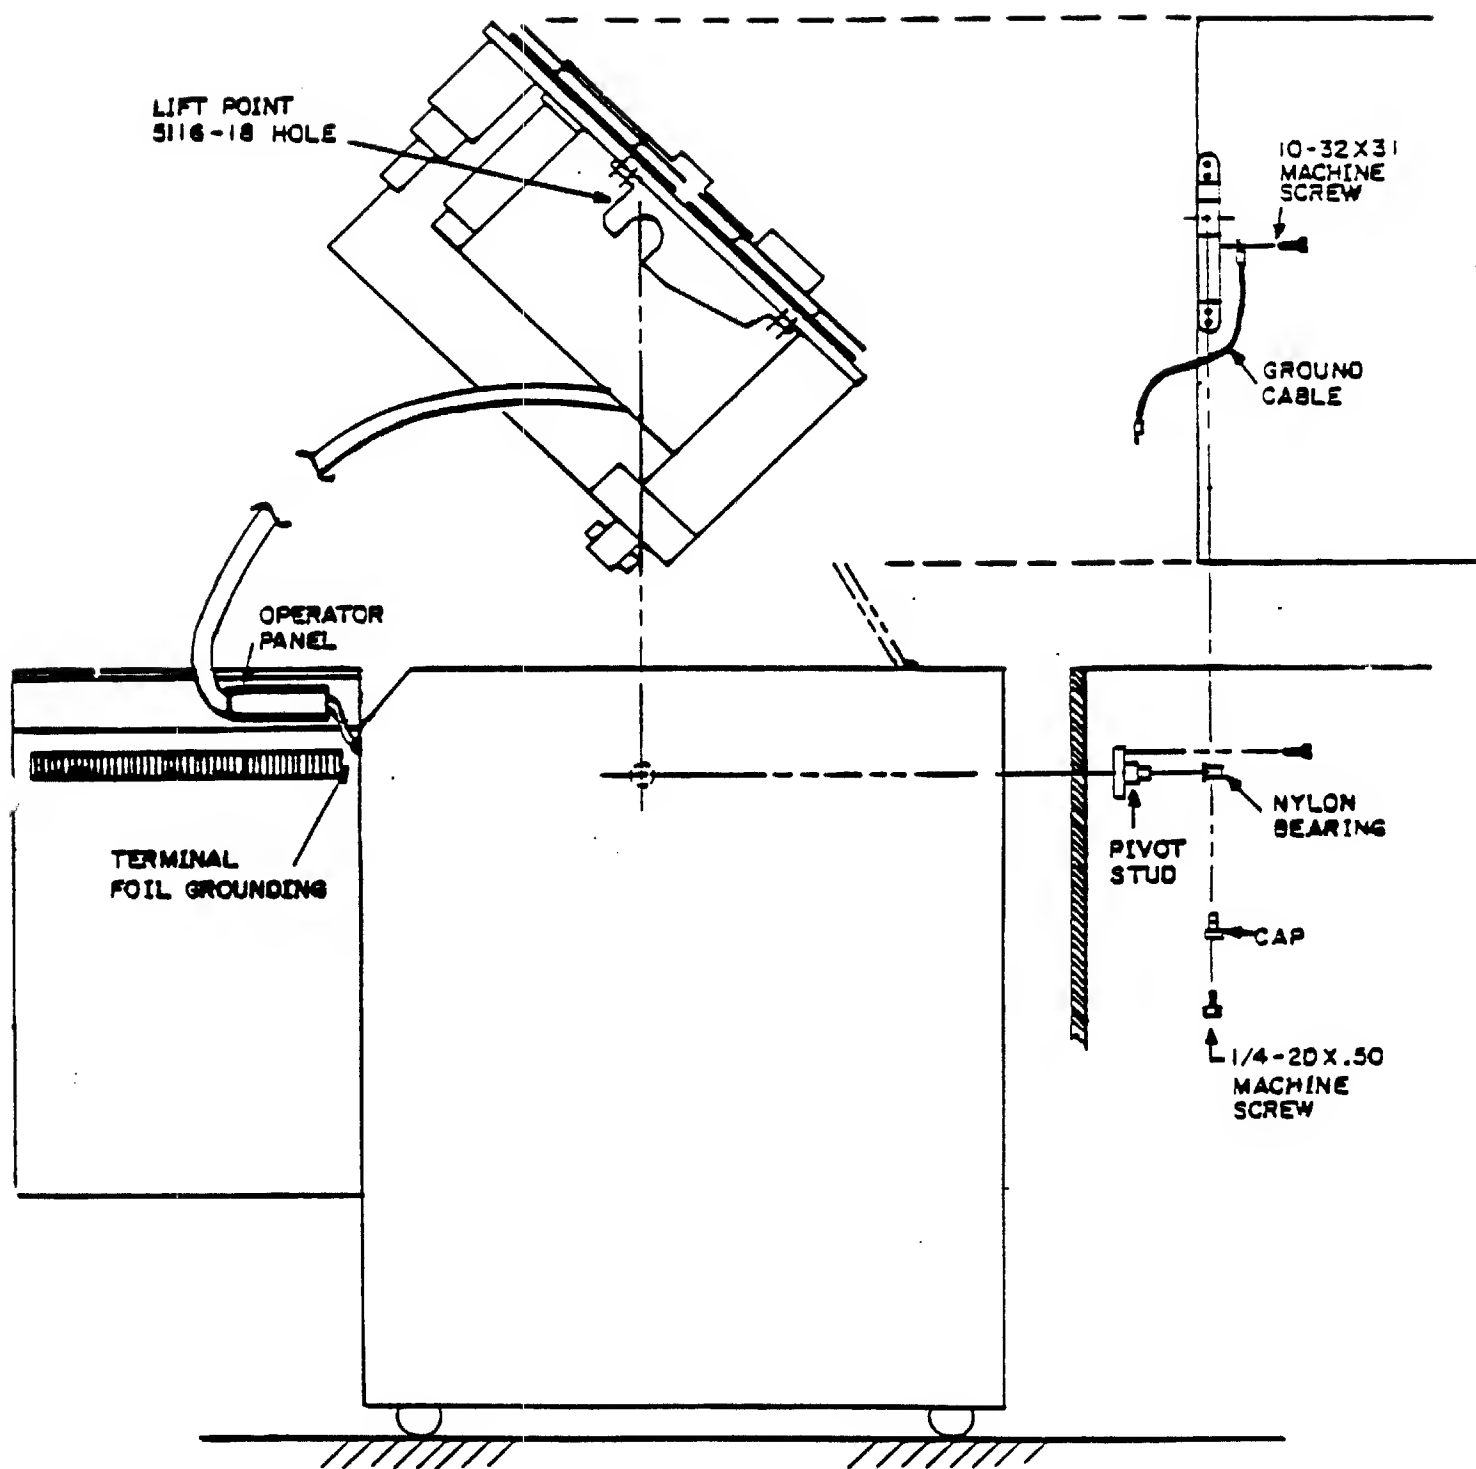
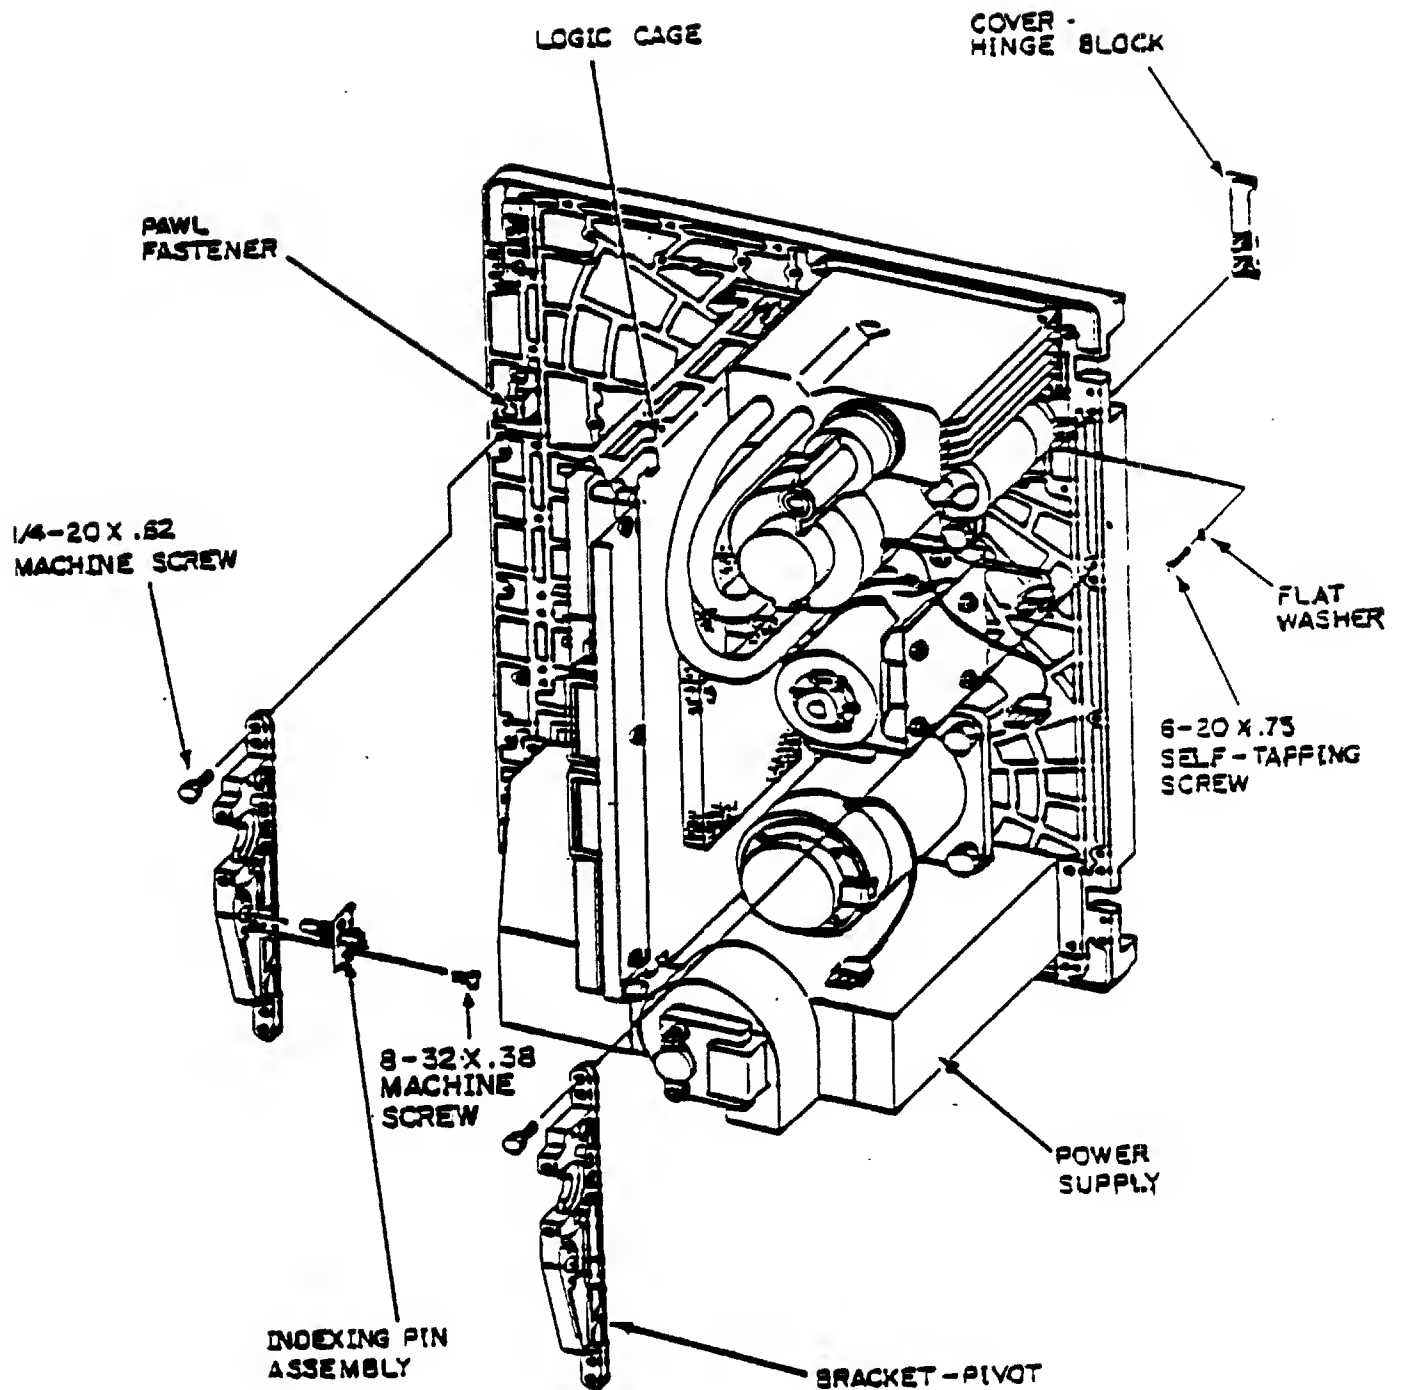

Figure 3-7. INSTALLATION HARDWARE - CABINET
Figure 3-8. INSTALLATION HARDWARE - STU
The following procedures, steps 1 thru 15, may be referenced to Figures 3-7 and 3-8. Figure 3-7 illustrates the installation hardware mounting locations on the cabinet while Figure 3-8 illustrates installation hardware mounting locations on the STU.
4. Turn STU over so that unit is in a vertical position, resting on the power supply assembly (Figure 3-8).